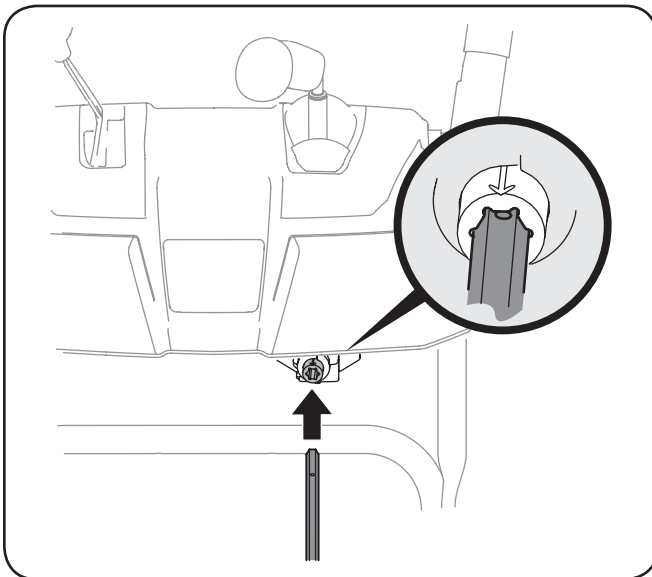

Figure 3-15
6. Insert the chute control rod into the pinion gear below the joystick. Make sure to line up the hole in the rod with the arrow on the pinion gear. See Figure 3-15.